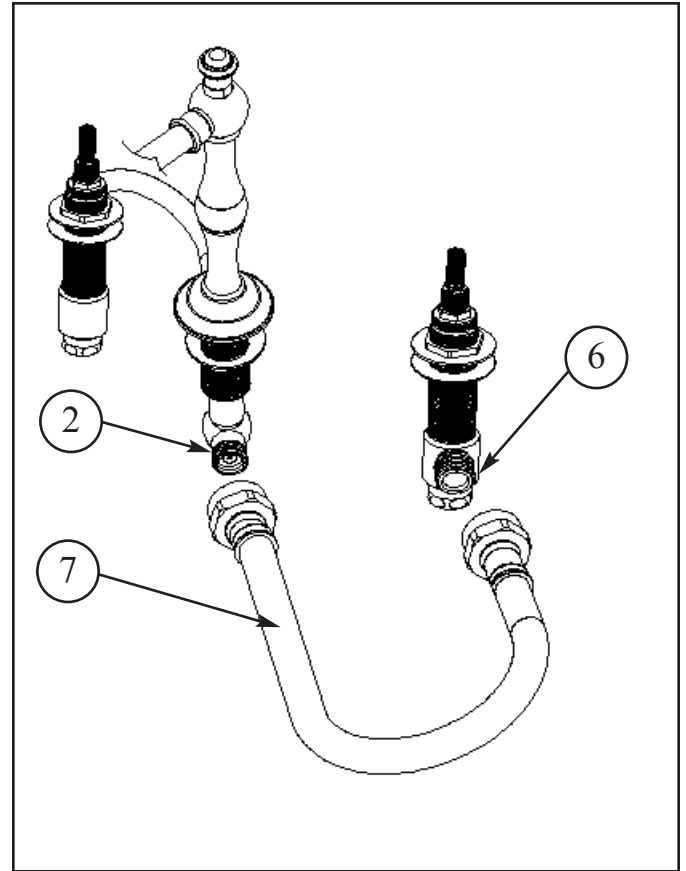

Figure 2
- Connect a FLEX HOSE (7) to side outlet of each VALVE BODY (6). Attach the other end of FLEX HOSE (7) to either side of DIVERter TEE (2). Hand tighten each connection and secure with a wrench, (1/4 turn). See Figure 2.